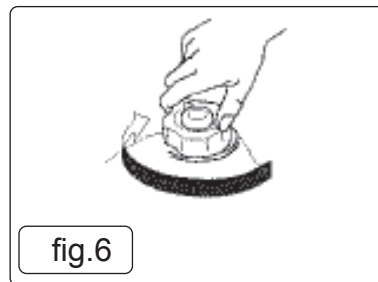

fig.6
4.7.5. Remove the fuel tank cap fig.6.